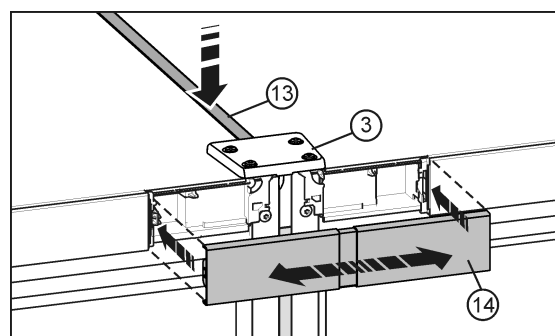

Fig. 27
- ▶ On the top, press the short trim *Fig. 27 (13)* into the gap. The trim must form a flush finish with the connecting plate *Fig. 27 (3)* on the front edge.
- ▶ Snap the cover *Fig. 27 (14)* onto the open space between the two control panel trims. Make sure that the outer surfaces of the cover form a flush finish with the control panel trims. The cover can be extended for this purpose.